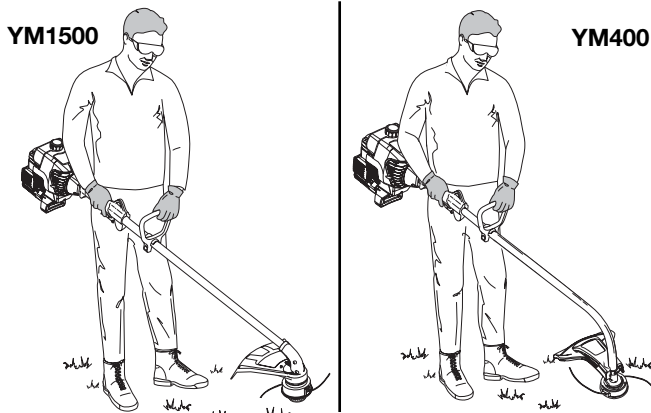

Fig. 9
4. While holding the unit in the operating position (Fig. 9), arrange the D-handle in the location that provides you the best grip.
Before operating the unit, stand in the operating position (Fig. 9). Check for the following: